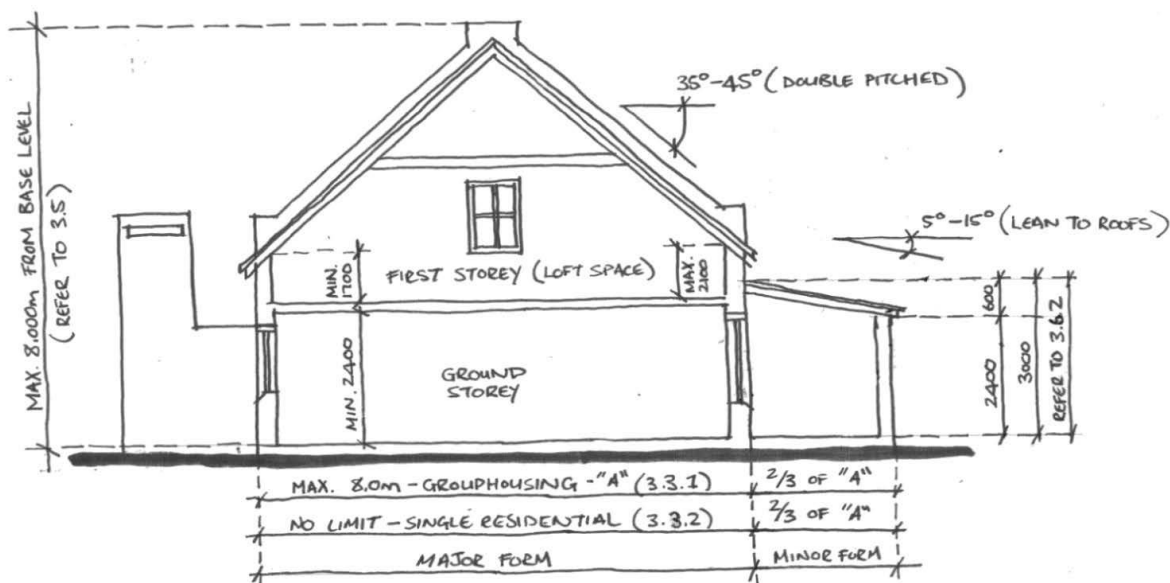

FIGURE 01: TYPICAL CROSS SECTION
- Dwelling Houses are to be composed of major and minor plan elements (forms) with limited widths and depths as indicated in Figure 01 (Typical Cross Section).
Despite anything shown in Figure 01 below, or as contained anywhere else in this document pertaining to dwelling rooms and their dimensions/heights, the SANS' prescripts as contained in Table 2 (SANS), shall prevail: